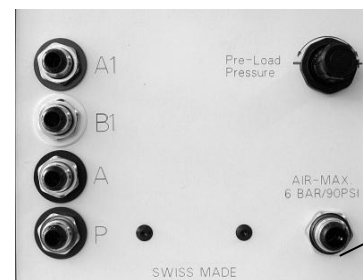
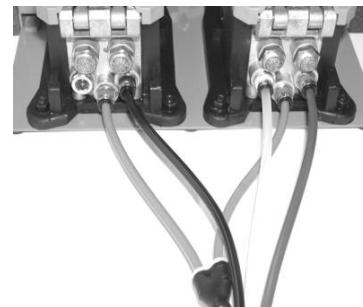

Fig. 8.01
Fig. 8.02
Connect the colour coated, fourfold air hose on the back of the machine (Fig. 8.01) and to the double foot pedal (Fig. 8.02).
Connect **AIR MAX**. (Fig. 8.01, Pos. 1) of the Pneum. Parallel Crimp Machine AT-SC to the main air supply with the included black air hose Ø 8/6 mm.
- The machine can only be depressurized by disconnecting the machine from the main air supply (Fig. 8.01, Pos 1).